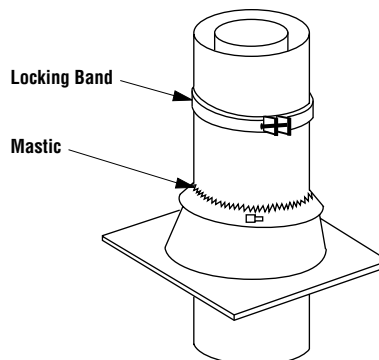

Figure 32
Step 8. The standard Security FTF8 roof flashing assemblies include a storm collar. Slide the storm collar over outer chimney, rest on flashing spacers and align with top surface of flashing. Insert tab in slot, pull tight and bend tab back over slot. Seal storm collar to outer chimney with roof caulking or mastic around entire circumference of pipe. Also add extra roof caulking to the tab/slot area to seal completely against water penetration (*Figure 32*). Check all joints very carefully to ensure no water intrusion can take place.
Step 9. Security Chimneys locking bands, Model FLB, may be required if the chimney extends too high above the roof flashing. As a general rule, if the chimney extends more than 6' above the roof flashing, the use of locking bands is advisable to strengthen the chimney assembly. Align the locking band at the chimney joint. Locking bands wrap around pipe joints equally covering the joints of both pipe sections. Use the nut provided and TIGHTEN snugly. Do not overtighten as this might damage the chimney section (refer to *Figure 32*).